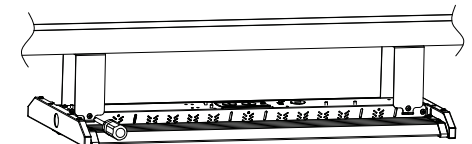

Figure 7
- Step2. Assemble the lamp on the bracket and fix it with screws; (Figure 7)